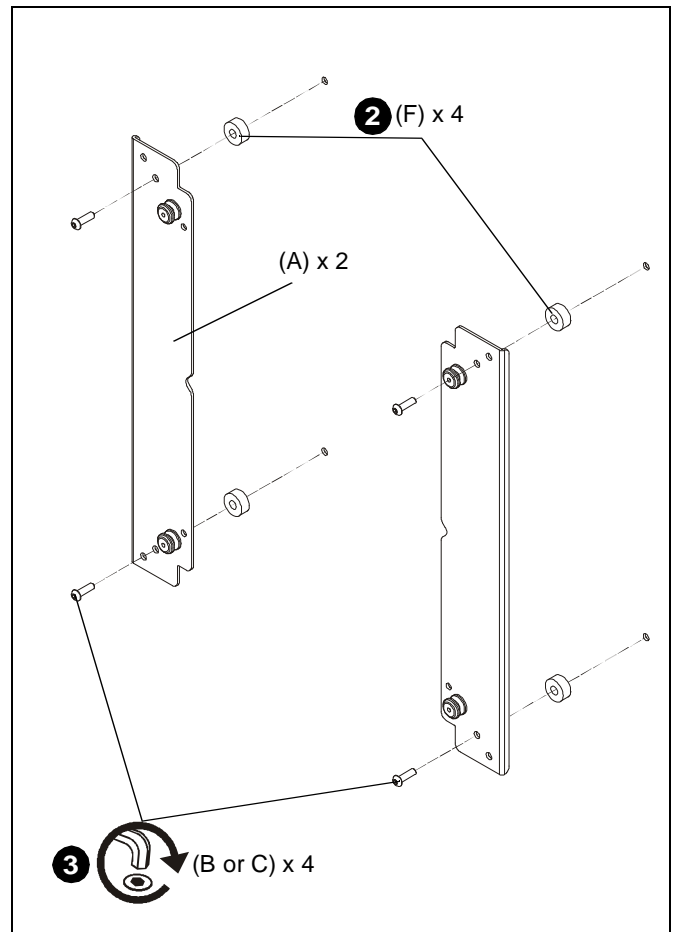

Figure 2
3. Attach the interface brackets (A) to the back of the display using either M6 x 20mm or M6 x 30mm button head cap screws (B or C) and the M4 hex key (G). (See Figure 2)
2. Place four 3/8" spacers (F) over mounting holes on back of display. (See Figure 2)